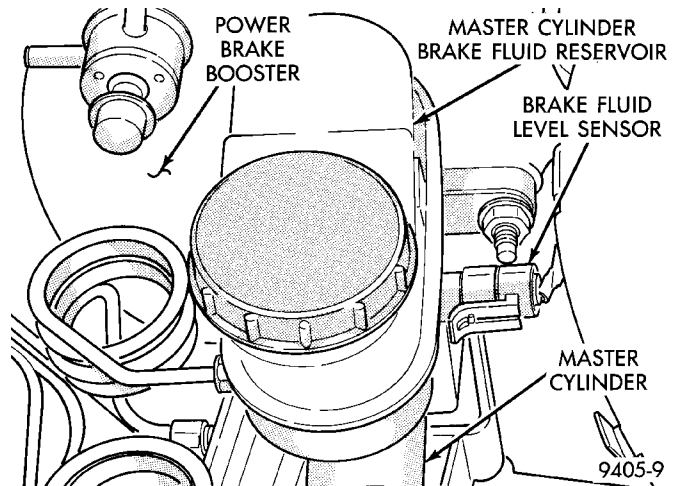

Fig. 165 Master Cylinder Fluid Level Sensor
(1) Remove wiring harness connector from brake fluid reservoir level sensor (Fig. 165).